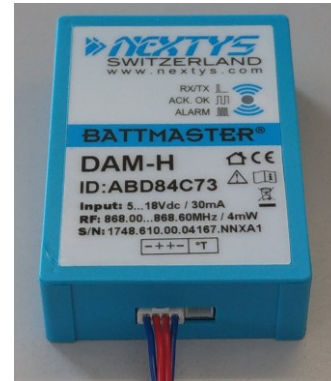

Figure 24: Cable connection to the DAM
3. Connect the battery cable to the DAM cable receptacle as shown in Figure 24. The connector has a key to prevent reverse insertion, don't force the connector in its socket! Carefully check that the plug is securely connected. In case of automatic configuration perform this operation later as specified in §7.4.4.